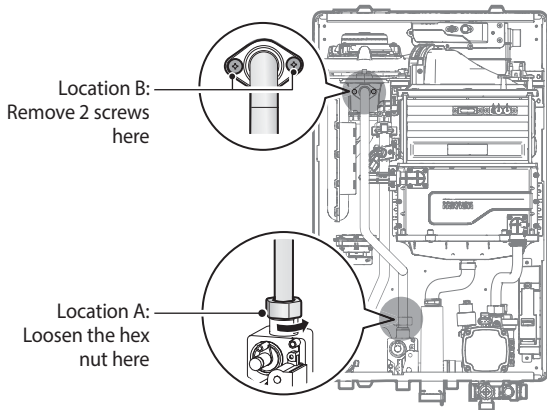
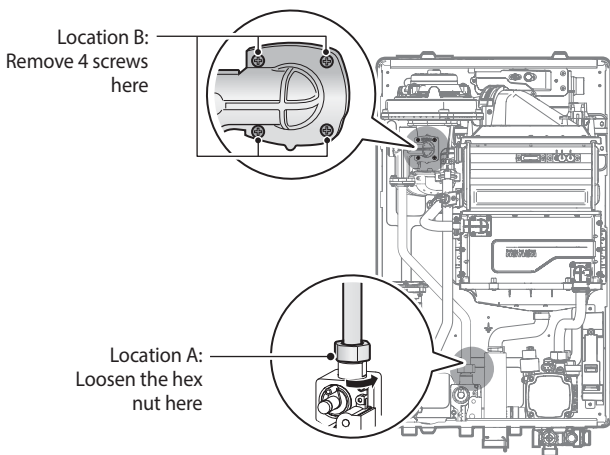

Figure 3-1. Detaching Gas Inlet Pipe from Gas Valve and Fan Motor Assembly (NCB-20/23/28LHWE)
Figure 3-2. Detaching Gas Inlet Pipe from Gas Valve and Fan Motor Assembly (NCB-33LHWE)
9. Loosen the hex nut at location A - the connection above the gas valve where it connects to the pipe. See Figure 3-1 and Figure 3-2 for reference. Once the hex nut is loose, carefully separate the pipe from the gas valve.